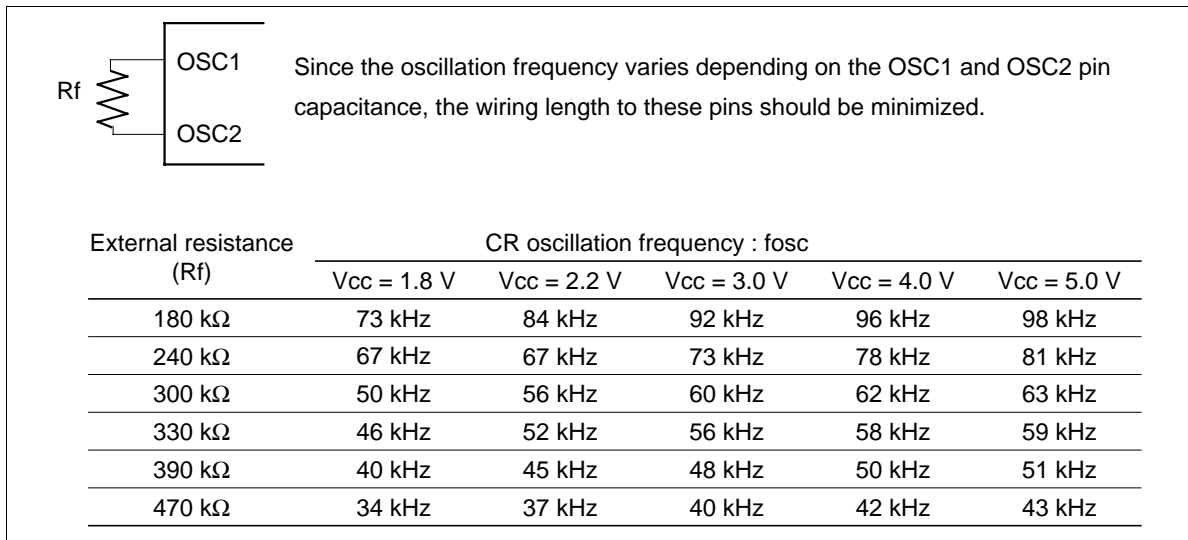

Figure 63 Internal Oscillation
14. Applies to the internal oscillator operations using oscillation resistor Rf (figure 63).